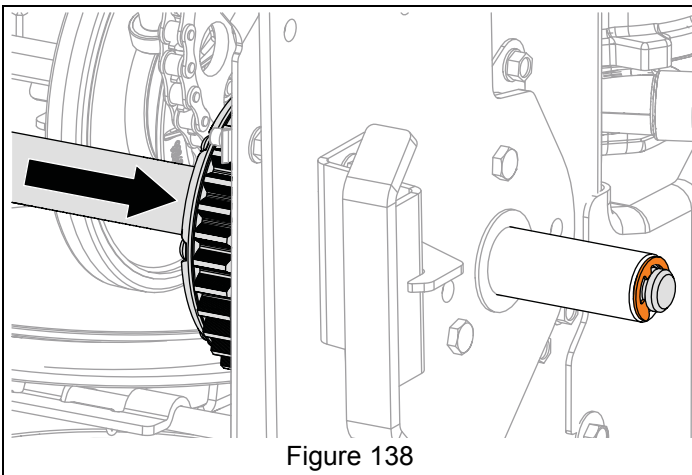

Figure 138
4. Reinstall E-ring onto axle end. See Figure 138.